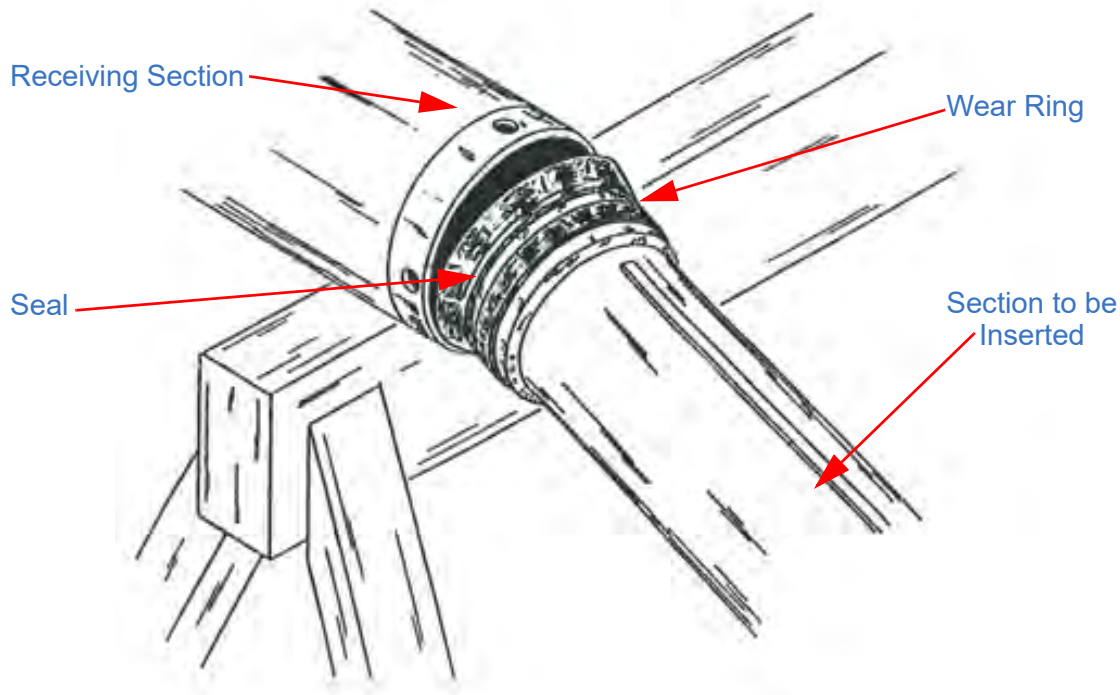

Figure 8-5 Seal Replacement
13. Using a second person or a brace to support the top end, hold the next tube so the top end of the tube is at a lower elevation than the seal end. Rest the lip of the seal on the inside of the receiving tube (Figure 8-5). Use care to follow all applicable lifting precautions whenever lifting the mast or components of the mast.